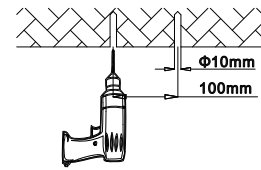

Figure 3
1. Use a marker or a sharp tool to mark the mounting surface and then drill (refer to Figure 3).